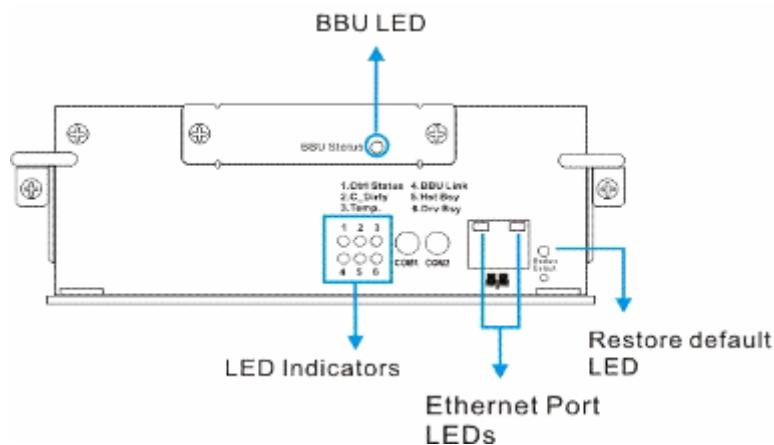

Figure 4-3: Controller LEDs
The controller faceplate is shown in *Figure 4-3*. Nine (9) LEDs of different types are present and described in the following sub-sections.
Each I/O module provides 4G FC SFP ports. Each of these ports has two (2) LEDs (see **Figure 4-3**) for displaying the link and speed statuses. Host port LEDs are used here as examples.
A restore default LED is located above the Restore Default push button on the lower right corner of the controller faceplate. (See *Figure 4-3*) To restore firmware defaults, press and hold the button before powering on the subsystem. Once the factory defaults are successfully restored, the restore default LED lights green.